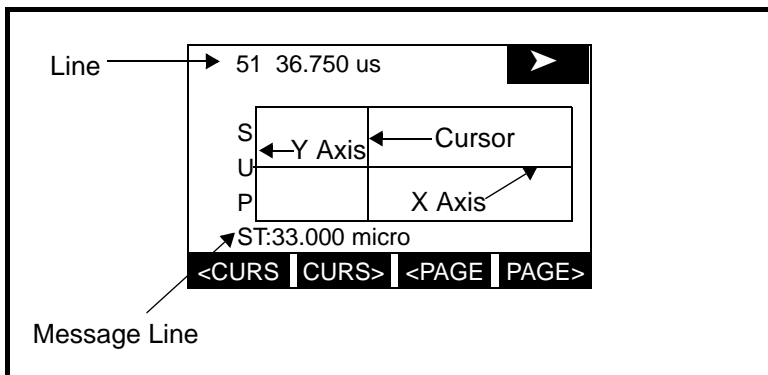

Figure 4-8: Signal Format
A screen similar to Figure 4-8 below appears. The Y axis represents the amplitude of the signal; the X axis represents the time in microseconds.
To view the signal, use the [**<CURS**] and [**CURS>**] feature keys to move the cursor left and right within the current page. Use the [**<PAGE**] and [**PAGE>**] feature keys to move quickly from page to page of the signal. When you move the cursor, the Status Line (see Figure 4-8 on page 4-18) displays the signal amplitude and the time.
- **START** — This feature key automatically moves the cursor to the beginning of the page. In addition, the TransPort displays the start date and time of that page on the message line (see Figure 4-8 on page 4-18).